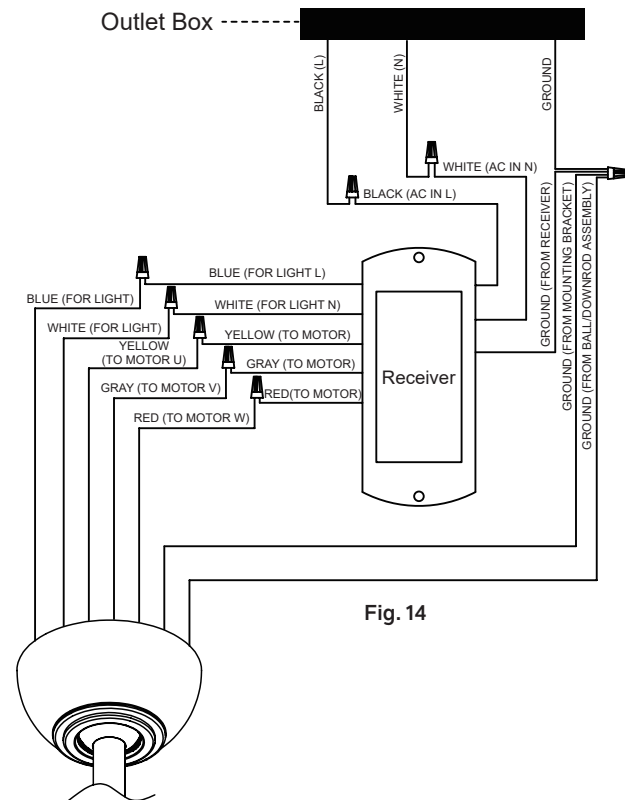

Fig. 14
Make each of the wire connections illustrated in Fig. 14. Secure each with the wire nuts provided.
Step 1. Connect the BLUE (FOR LIGHT) wire from the fan to BLUE wire marked "FOR LIGHT L" from the receiver. **(Fig. 14)**
Step 2. Connect the WHITE (FOR LIGHT) wire from the fan to WHITE wire marked "FOR LIGHT N" from the receiver. **(Fig. 14)**
Step 3. Connect the YELLOW (TO MOTOR U) wire from the fan to YELLOW wire marked "TO MOTOR" from the receiver. **(Fig. 14)**
Step 4. Connect the GRAY (TO MOTOR V) wire from the fan to GRAY wire marked "TO MOTOR" from the receiver. **(Fig. 14)**
Step 5. Connect the RED (TO MOTOR W) wire from the fan to RED wire marked "TO MOTOR" from the receiver. **(Fig. 14)**
Step 6. Connect the BLACK (L) supply wire from outlet box to BLACK wire marked "AC IN L" from the receiver. **(Fig. 14)**
Step 7. Connect the WHITE (N) neutral wire from outlet box to WHITE wire marked "AC IN N" from the receiver. **(Fig. 14)**
Step 8. Connect GROUND (GREEN) wires from mounting bracket, hanger ball, and receiver to household GROUND (GREEN) or BARE (COPPER). **(Fig. 14)**